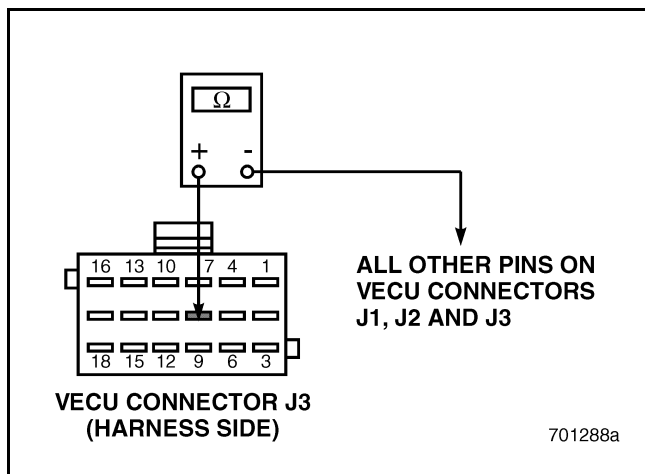

Figure 576
4. Check for continuity between VECU connector J3 pin 8 and all other pins on VECU connectors J1, J2 and J3 (see Figure 576).